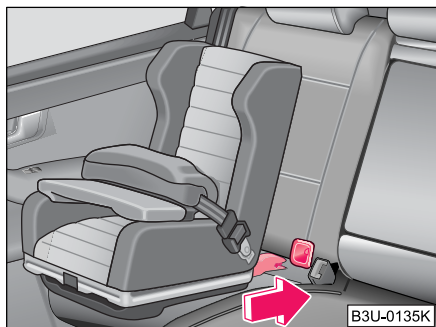

Fig. 114 The ISOFIX child seat is pushed into the mounting funnels
- Push the notched arms of the child seat over the mounting funnels into the locking eyes, until it is heard to lock ⇒ fig. 114.